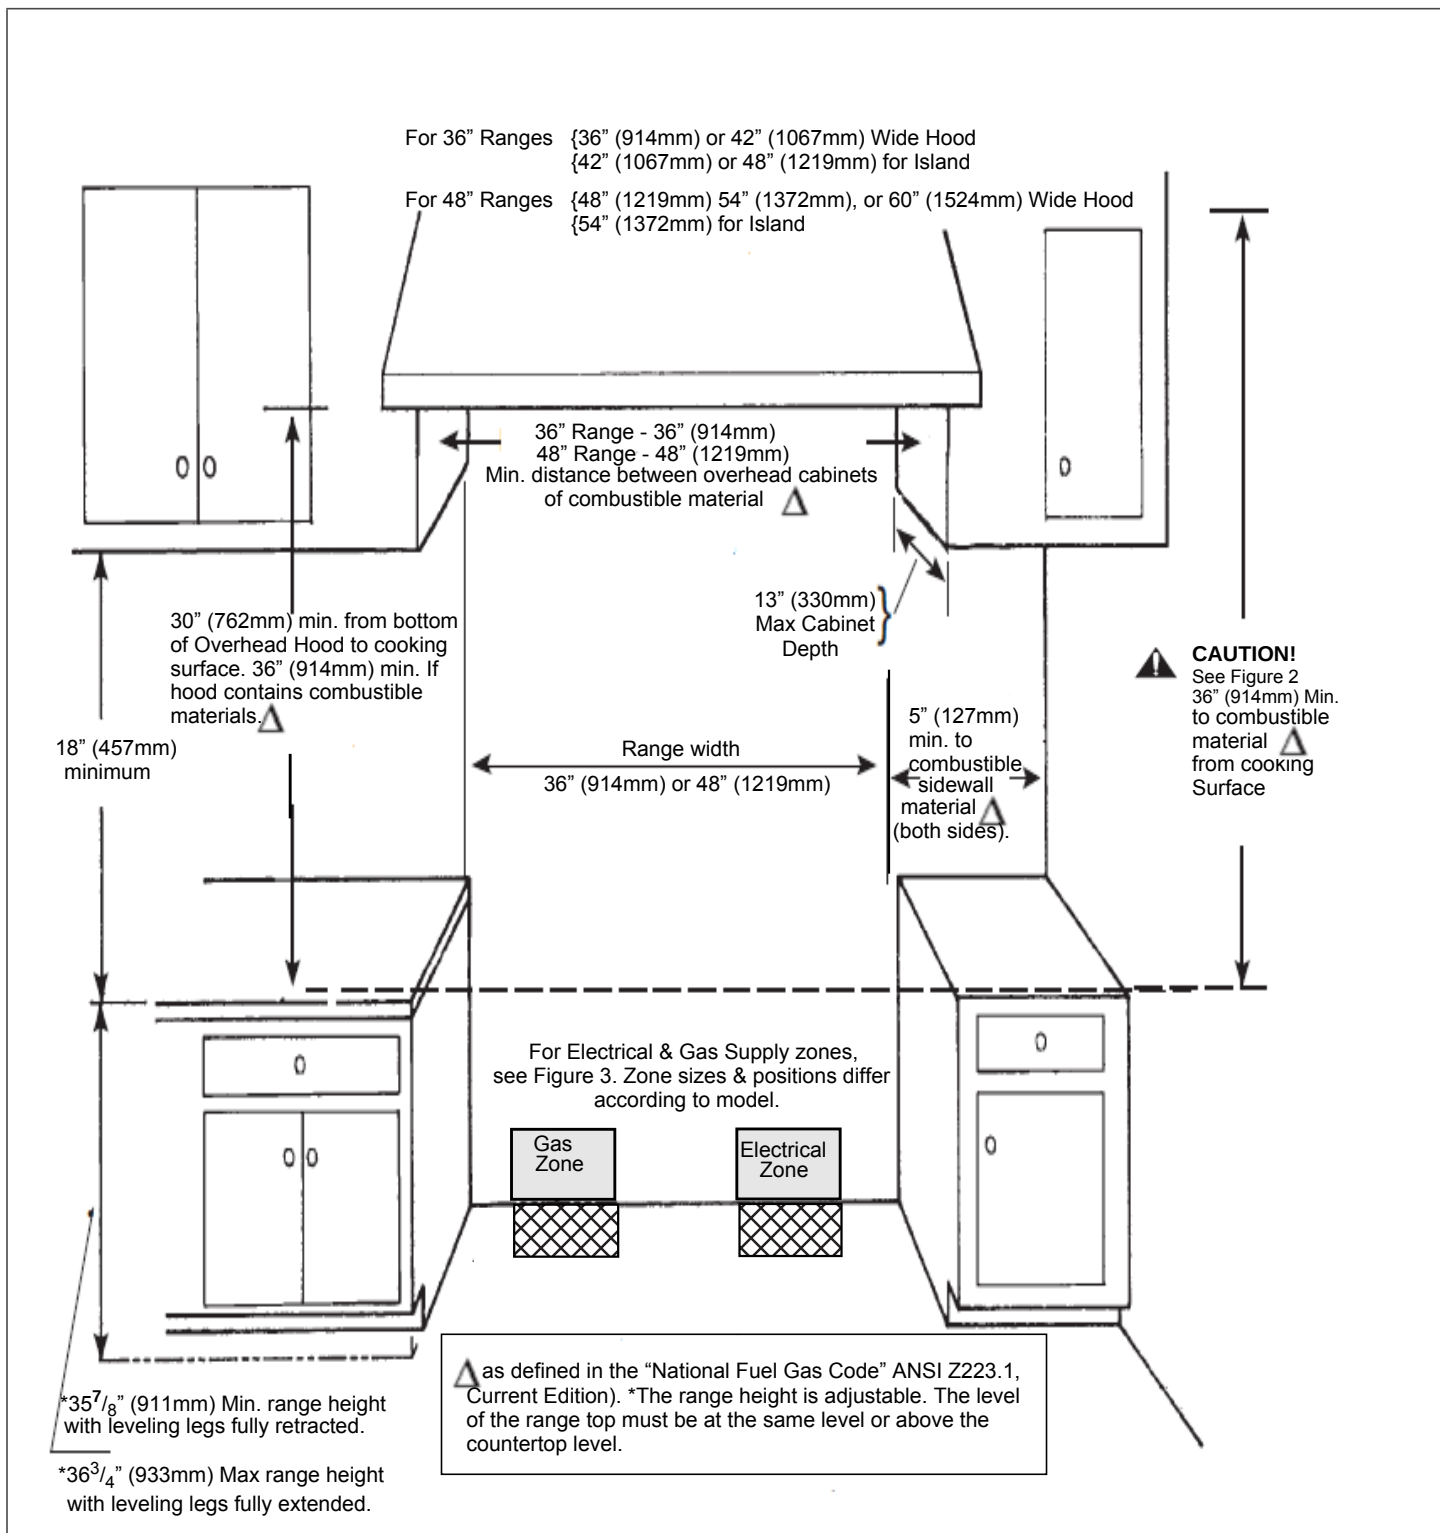

FIGURE 1: CABINET CLEARANCES
- For best smoke elimination, the lower edge of the hood should be installed 30" (762mm) above the range cooking surface. Use a 36" (914mm) minimum clearance if the hood contains any combustible materials such as a wood covering (Figure 1 on page 5).
- The range is a free standing unit. If the unit is to be placed adjacent to cabinets, the clearances shown in Figure 1 on page 5 are required. The same clearances apply to island installations, except for the overhead cabinets, which must have a space wide enough to accept the flared island hood, as also indicated in Figure 1 on page 5.